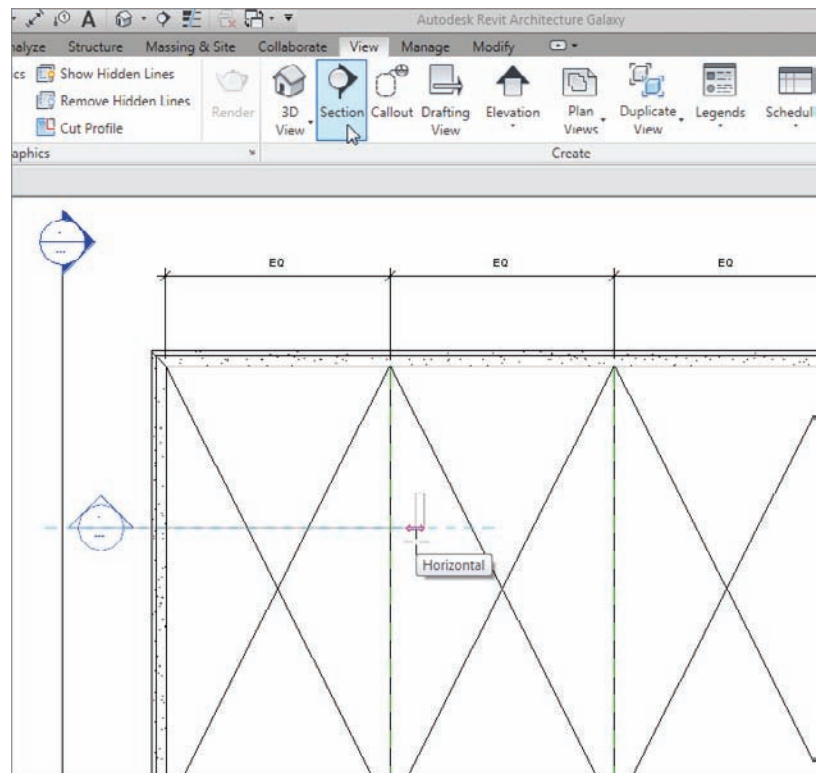

FIGURE 7.17 Adding a section through the roof at this point
2. Add a section through the roof, as shown in Figure 7.17.